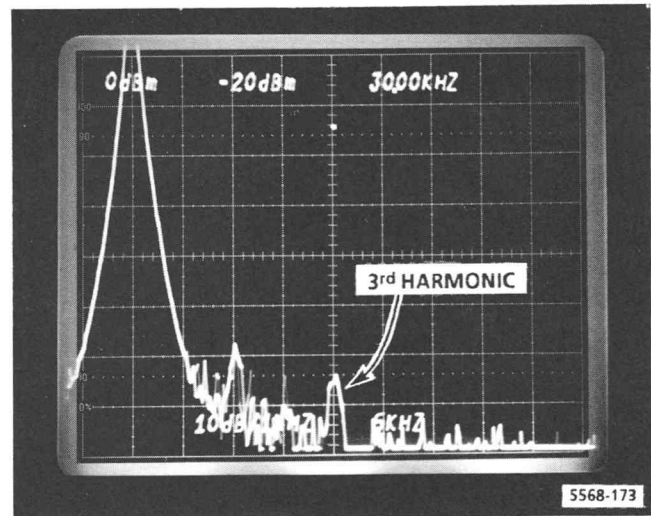

Fig. 4-63. Typical display when adjusting output amp bias.
- d. **ADJUST** R58 on A44 for minimum harmonics. Note that R58 may have only a slight affect on harmonics. See Fig. 4-63.